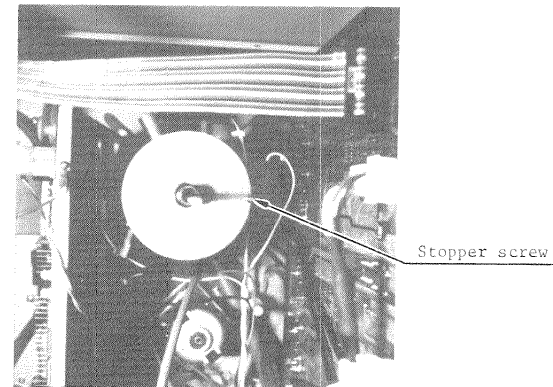

Fig. 2
1. Measure the distance between the joint flange surface and the tap of the reel motor shaft (a in Fig. 2) with calipers. Adjust the distance to 7.5mm, and tentatively secure the joint with the screws (C).
2. Secure the machine reel with the screws (B). Remove the screws (D) and remove front flange.